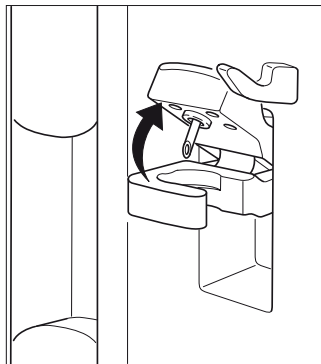

Figure 1
2. Open the SelectBag holder arm as shown in “Figure 1” below;